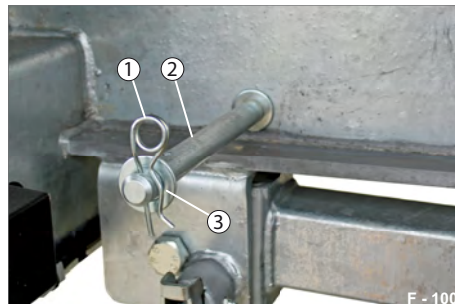

Fig. 90 Wheel chock holder
- ▶ Place the washer (Fig. 90/3) on the retaining bolt (Fig. 90/2).
- ▶ Insert the spring pin (Fig. 90/1) into the retaining bolt bore hole. The retaining elements are captively secured.
- ▶ Fit the wheel chock onto the retaining bolt (Fig. 90/2).
- ▶ Insert the spring pin (Fig. 90/1) into the retaining bolt bore hole so that the chock is firmly seated.